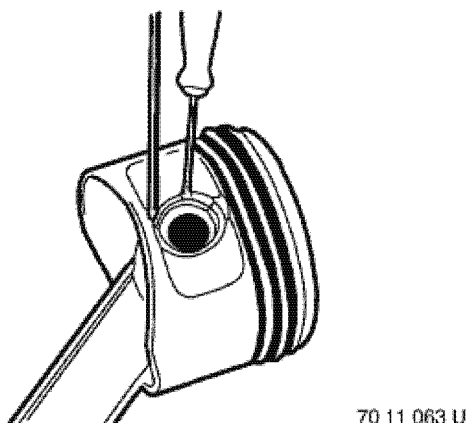

Figure 5-48
- Remove the wrist pin retaining rings (Figure 5-48).